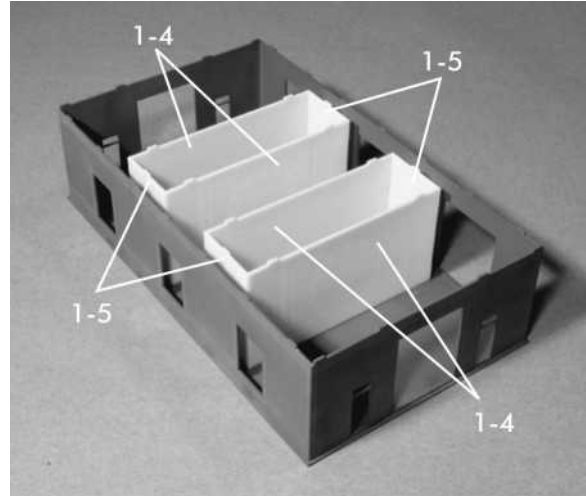

Figure 3
Assemble the condensers, parts (1-4) and (1-5). They are positioned around the engraved lines on part (A). Glue part (1-4) in the outside row of slots on one of the short sides. Attach one part (1-5) to either end of part (1-4) at a right angle using the slots on the short sides of part (A). Complete the box by gluing a second part (1-4) between parts (1-5). Make sure all tabs are seated properly and all joints are square. Glue all corners together. Repeat on the other side of part (A) to form a second box. See Figure 3.